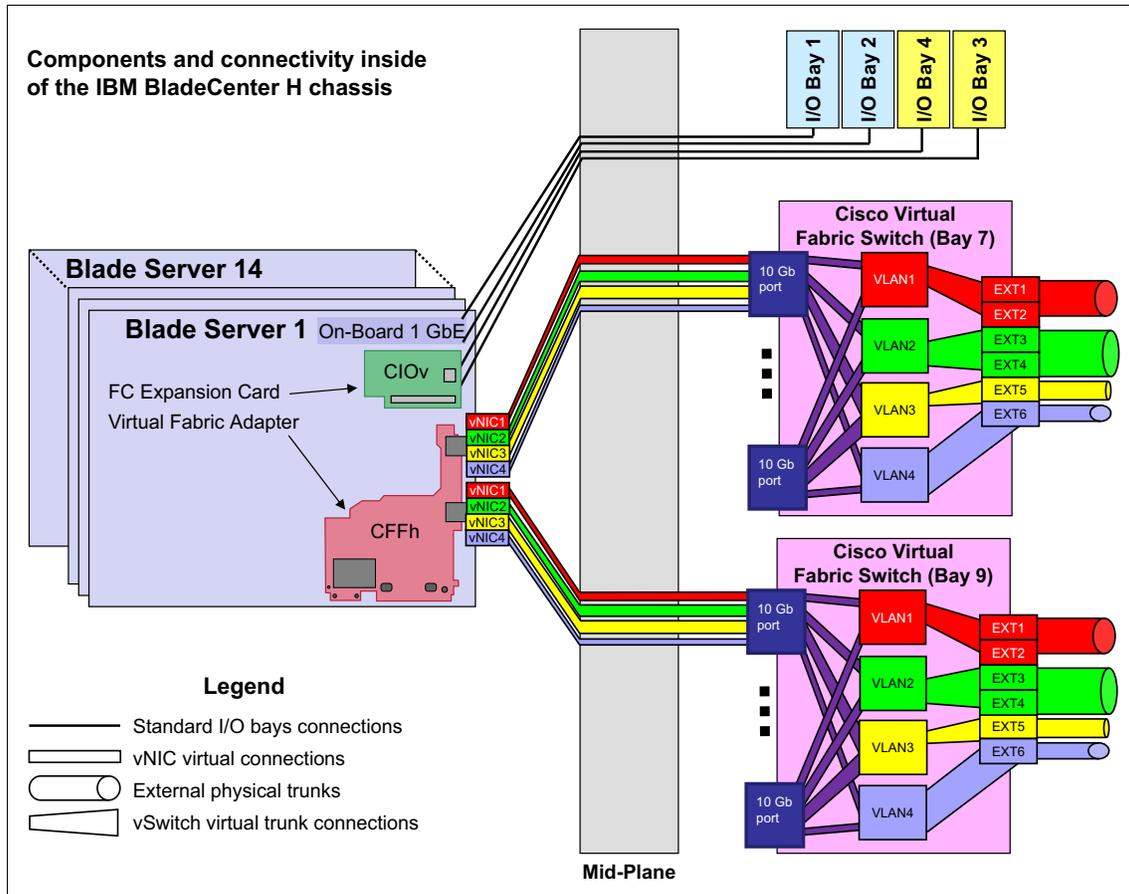

Figure 7-2 BladeCenter Virtual Fabric vNIC solution diagram with Cisco switch
Figure 7-2 on page 159 provides an overview of the vNIC solution architecture. The colors represent the virtual port groups to isolate traffic flows for services and applications. The thickness of each link represents the amount of assigned bandwidth for a particular traffic flow. Switch Independent Mode provides the capability to subdivide a single 10 Gbps link into up to four virtual channels.
**Tip:** An uplink can support multiple VLANs (not shown in Figure 7-2).